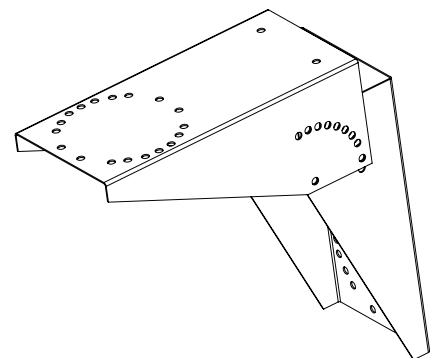

Figure 4 — Bracket Assembly
2. Insert the widest part of flange from one bracket inside the widest part of flange from the second bracket, forming a "V" as shown in Figure 4.